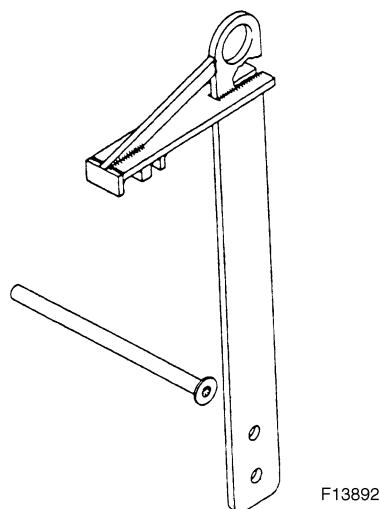

Figure 10-6. Typical Aftercooler Lifting Tool .
4. When the aftercooler is sufficiently free, apply an aftercooler lifting tool, Figure 10-6. Then, using a suitable hoist, remove the entire assembly from the air duct.